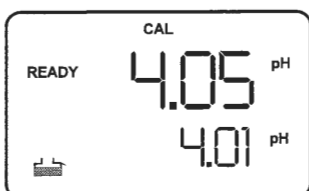

Figure 3: 2nd-point calibration
12. Wait for the measured pH value to stabilize (when the [READY] indicator displays in the left-hand corner). (see Figure 3).